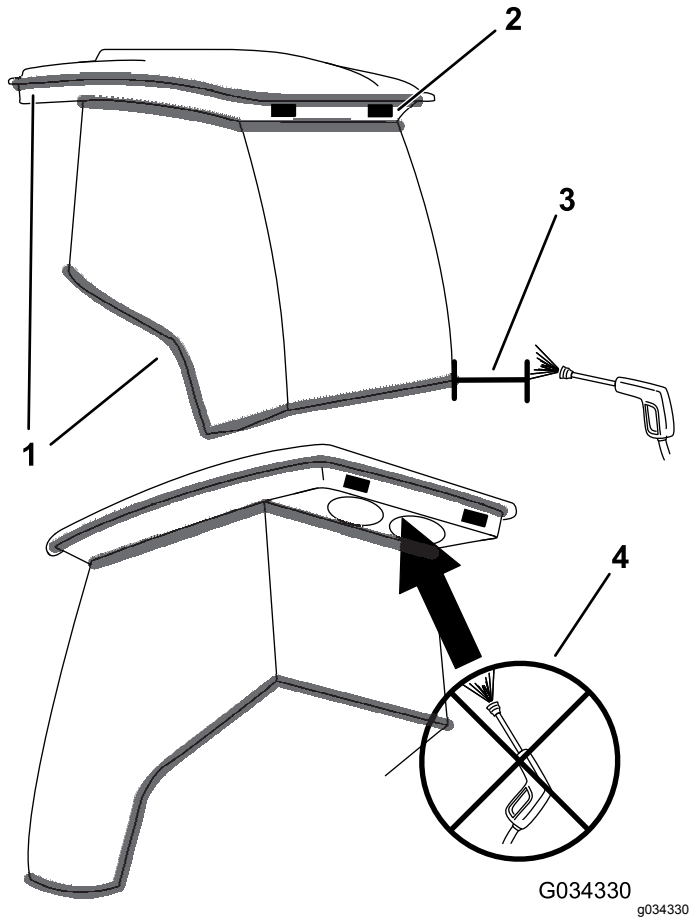

Figure 52
**Important:** Use care around the cab seals and lights (Figure 52). If you are using a pressure washer, keep the washer wand at least 0.6 m (2 ft) away from the machine. Do not use the pressure washer directly on the cab seals and lights or under the rear overhang.